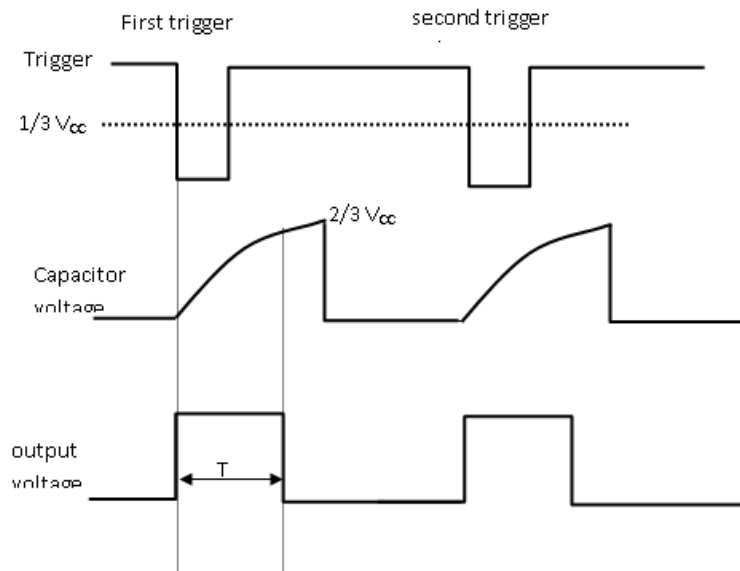

Fig 8. Output waveform of PWM
- This in turn changes the threshold level of the UC and the output pulse width modulation takes place. The modulating signal and the output waveform are shown in Fig 8